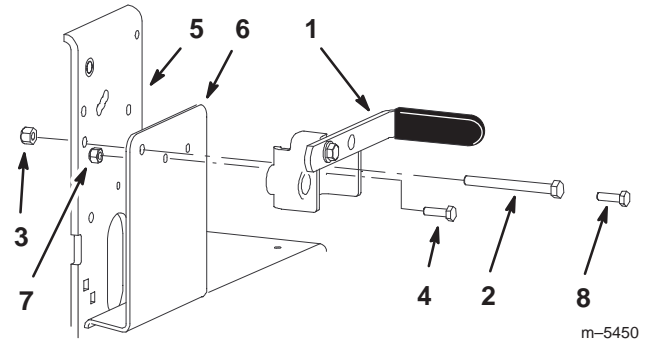

Figure 3
1. Install upper bracket to the machine frame with a bolt (5/16 x 3-1/4 in. or 5/16 x 7/8 in.) and locknut (Fig. 3). Install spacer on T-bar units.
2. Install upper bracket to the side plate and bearing with a bolt (5/16 x 7/8 in.) and locknut (Fig. 3).